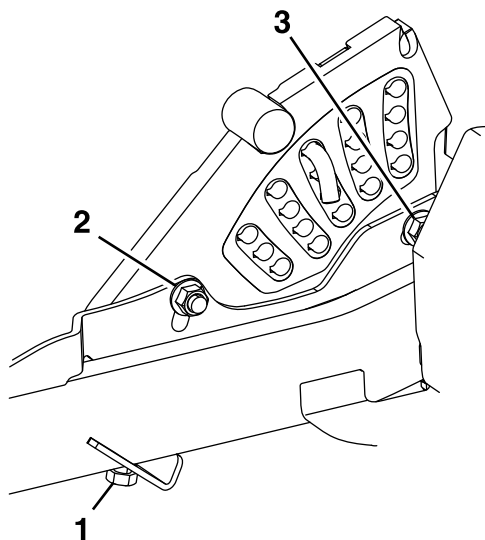

Figure 73
- If the deck is too low, tighten the single-point adjustment bolt by rotating it clockwise (Figure 73).